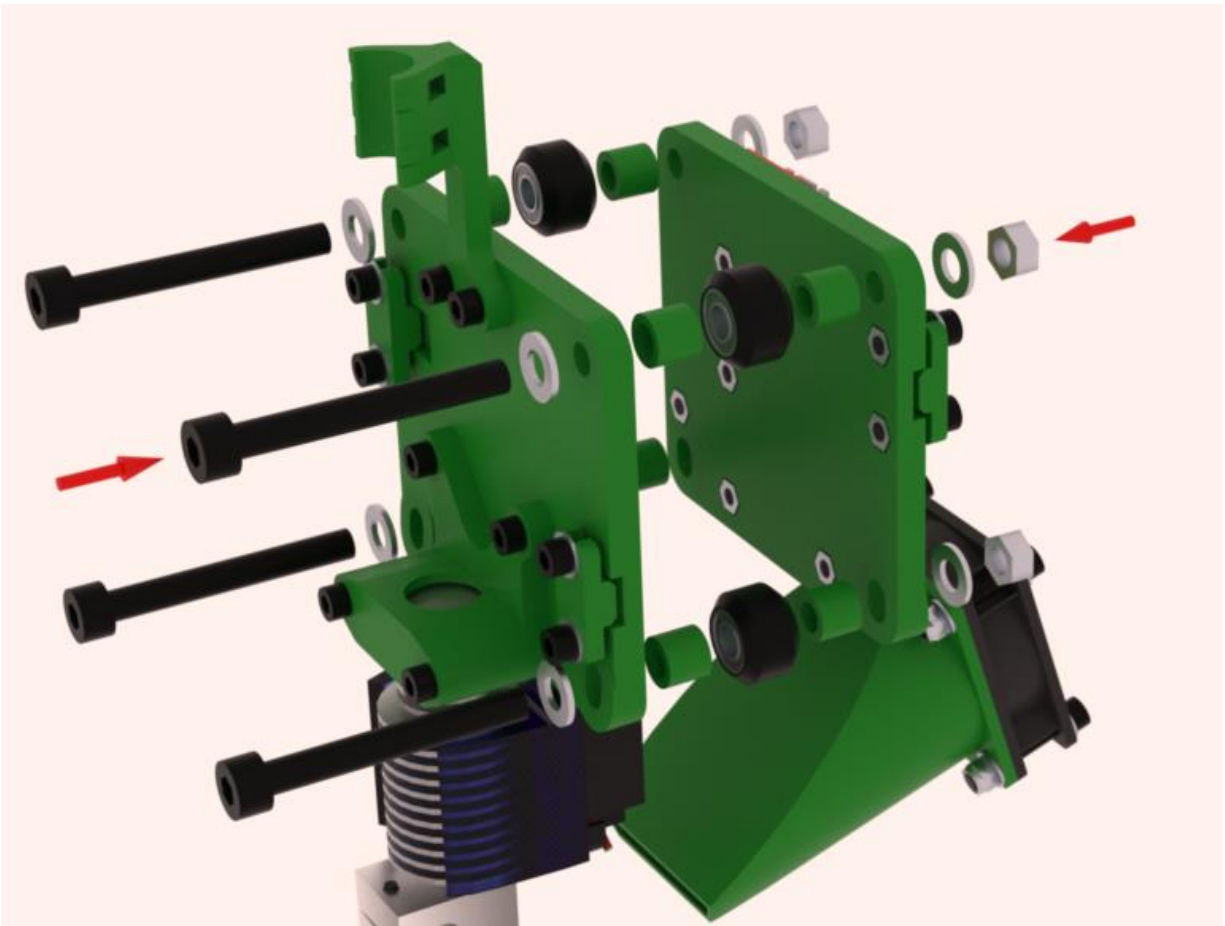

Figure 40: Print Carriage wheel assembly exploded view
- Bolt the front and rear print carriage plates together as shown in Figure 40.